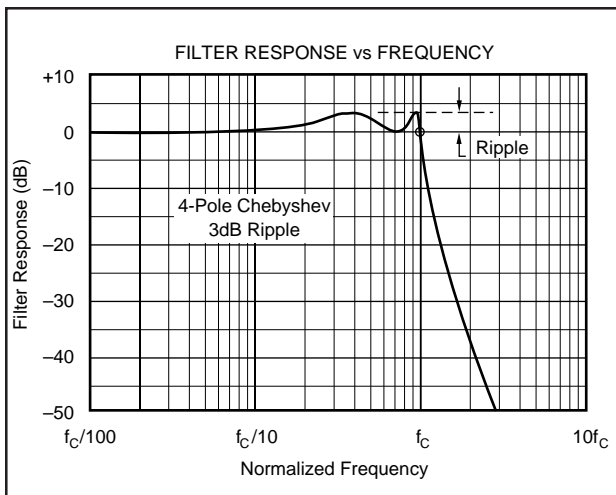
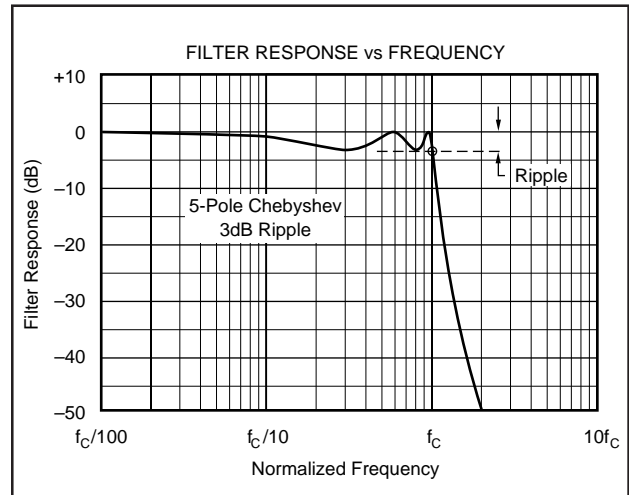

FIGURE 1a. Response vs Frequency of Even-Order (4-pole),  $3\text{dB}$ -Ripple Chebyshev Filter Showing Cutoff at  $0\text{dB}$ .
FIGURE 1b. Response vs Frequency of Odd-Order (5-pole),  $3\text{dB}$ -Ripple Chebyshev Filter Showing Cutoff at  $-3\text{dB}$ .
**Chebyshev**—equal ripple magnitude. (Sometimes translated Tschebyscheff or Tchevysheff). This filter response has steeper attenuation above the cutoff frequency than Butterworth. This advantage comes at the penalty of amplitude variation (ripple) in the pass-band. Unlike Butterworth and Bessel responses, which have  $3\text{dB}$  attenuation at the cutoff frequency, Chebyshev cutoff frequency is defined as the frequency at which the response falls below the ripple band. For even-order filters, all ripple is above the  $0\text{dB}$  DC response, so cutoff is at  $0\text{dB}$ —see Figure 1a. For odd-order filters, all ripple is below the  $0\text{dB}$  DC response, so cutoff is at  $-(\text{ripple})\text{dB}$ —see Figure 1b. For a given number of poles, a steeper cutoff can be achieved by allowing more pass-band ripple. The Chebyshev has even more ringing in its pulse response than the Butterworth.